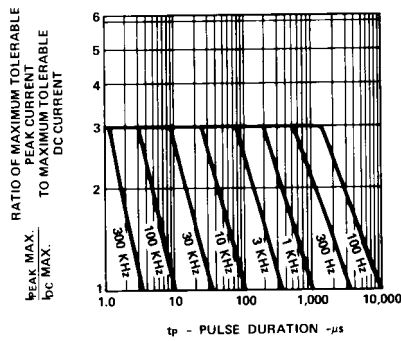

Figure 5. Maximum Tolerable Peak Current vs. Pulse Duration. (I_{DC} MAX as per MAX Ratings)
- See Figure 5 (HER/Orange), 10 (Yellow), or 15 (Green/Emerald Green) to establish pulsed operating conditions.